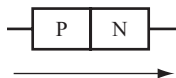

FIGURE 2.3
- 3** Diodes are useful because electric current can flow through a PN junction *in one direction only*. Figure 2.3 shows the direction in which the current flows.